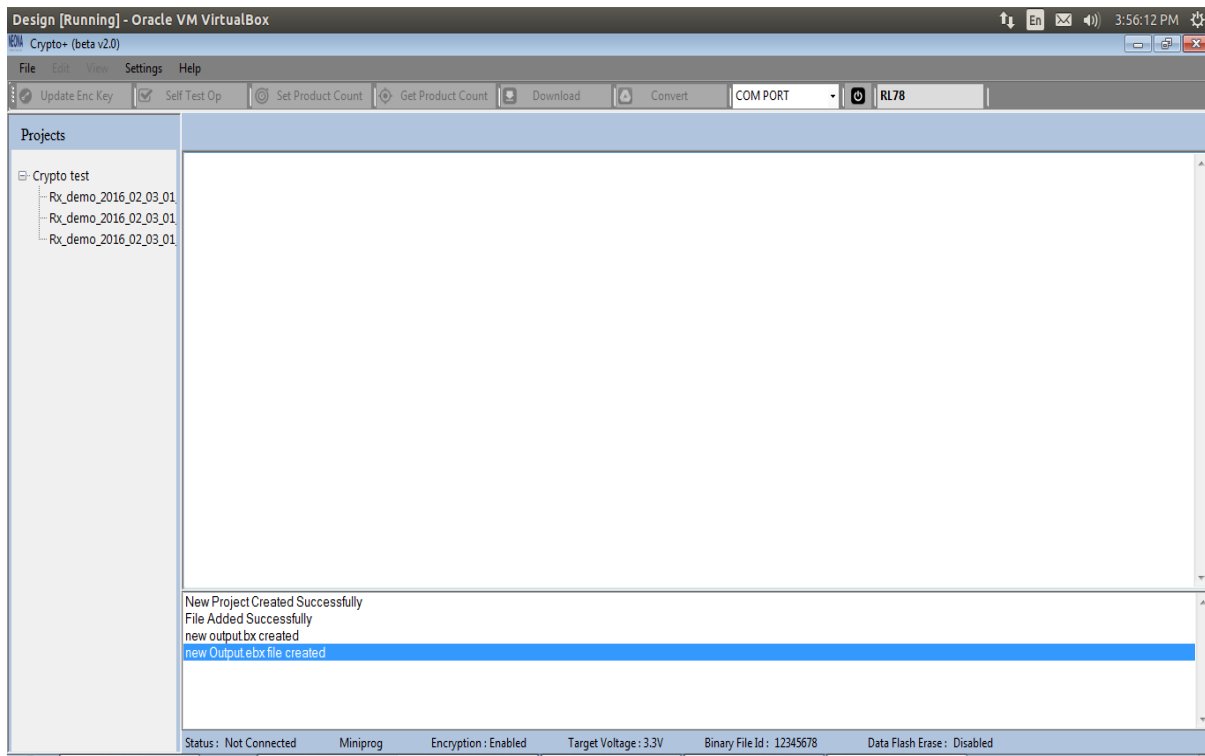

**Figure 2.28**
**STEP 2:** Prompt for entering start will be displayed as shown in figure 2.28. Enter the 8 digit start address & click on **OK**.